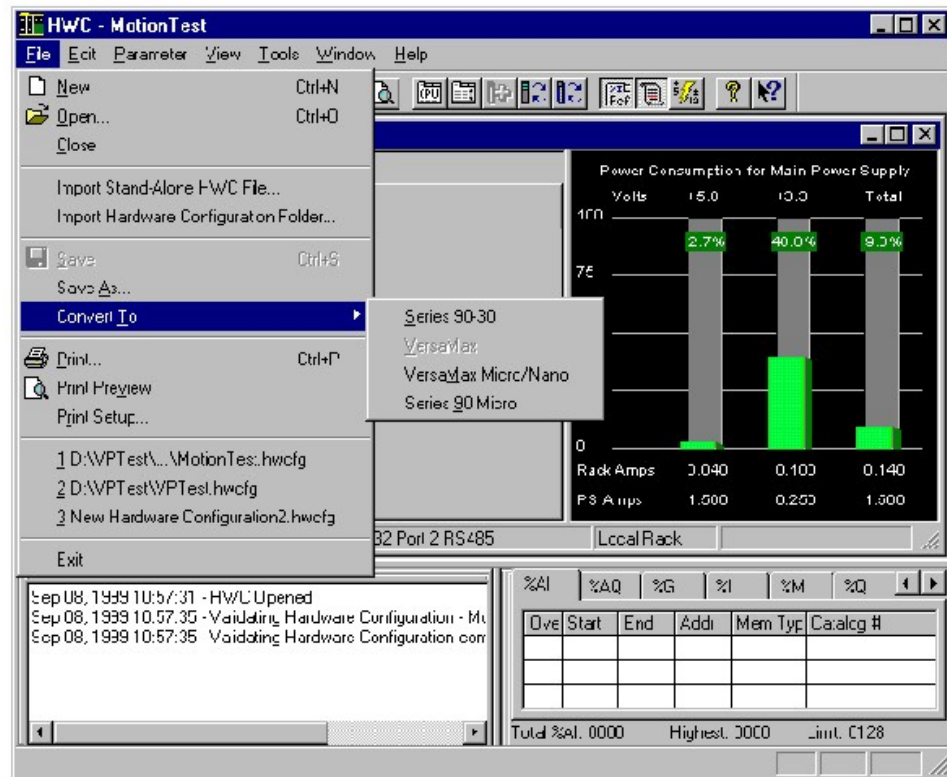

Figure 16-27. Hardware Configuration Rack Selection
Once a successful syntax check is completed for the local logic and motion programs, you need to set up the hardware configuration that will allow the example program to be downloaded to the DSM314 module. The sequence of steps in this example is not typical for most installations. Most users will first set up their hardware configuration and then generate the programming statements. However, the example is aimed at illustrating the CAM feature. Therefore, the order is reversed to better illustrate the link between hardware configuration and the CAM block name in the DSM314 hardware configuration. The next step in this example is to start the hardware configuration. There are multiple ways to do this. Two methods are presented here (consult VersaPro documentation for additional details). To perform these steps either (1) access the **View** selection from the main menu and then select **Hardware Configuration** or (2) click the Hardware Configuration toolbar icon. This launches the Hardware configuration tool. The default hardware configuration screens are for the VersaMax product. Therefore, the first operation is to select the Series 90-30. To perform this action, select **File** from the main menu, **Convert To** from the File menu, and **Series 90-30** from the **Convert To** menu, as shown in Figure 16-27.